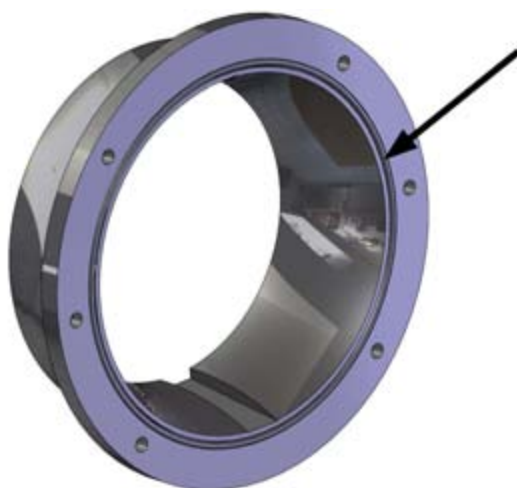

Figure 93. Choker seal
3. Remove the old seal (figure 93).